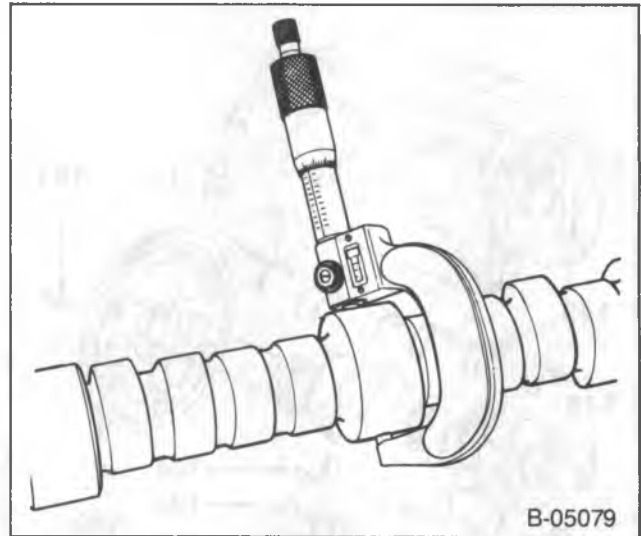

Figure 16—Measuring the Camshaft Journals
Measure (Figure 16)
- Camshaft journals. Use a micrometer (figure 16). The proper journal dimensions are as follows: